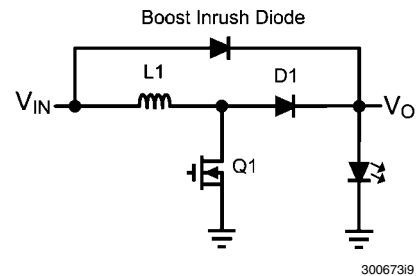

FIGURE 21. Boost Topology with Inrush Diode
- Add an inrush diode from V_{IN} to the output as shown in Figure 21.